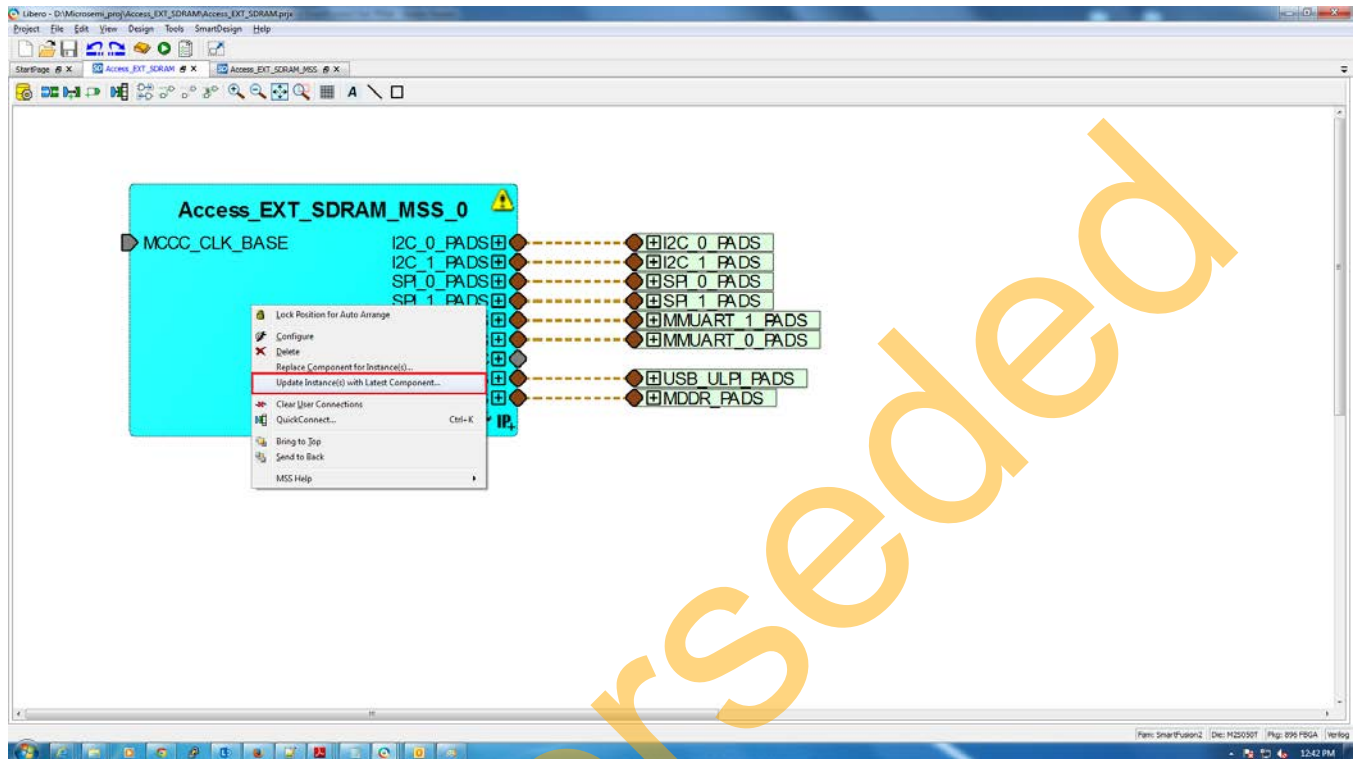
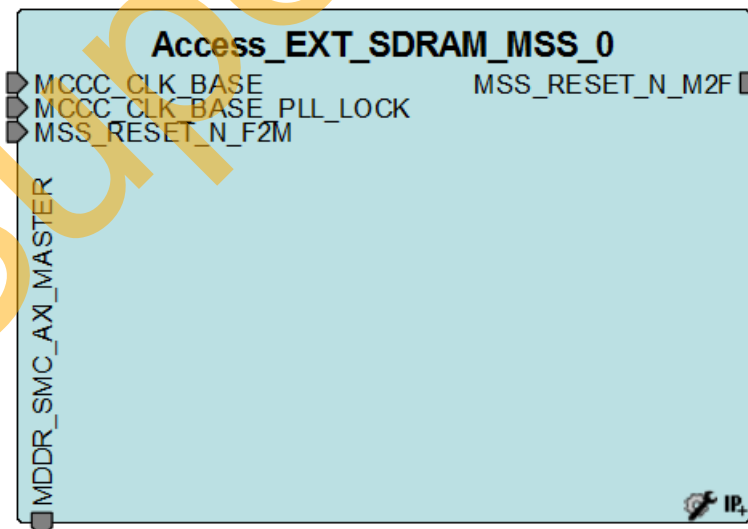

Figure 13. Updating the MSS
Figure 14. Updated MSS Instance
1. Select the **Access_EXT_SDRAM** tab on the SmartDesign canvas, right-click **Access_EXT_SDRAM_MSS_0** and select **Update Instance(s) with Latest Component**, as shown in Figure 13. After successful updating, the **Access_EXT_SDRAM_MSS_0** instance will look, as shown in Figure 14.